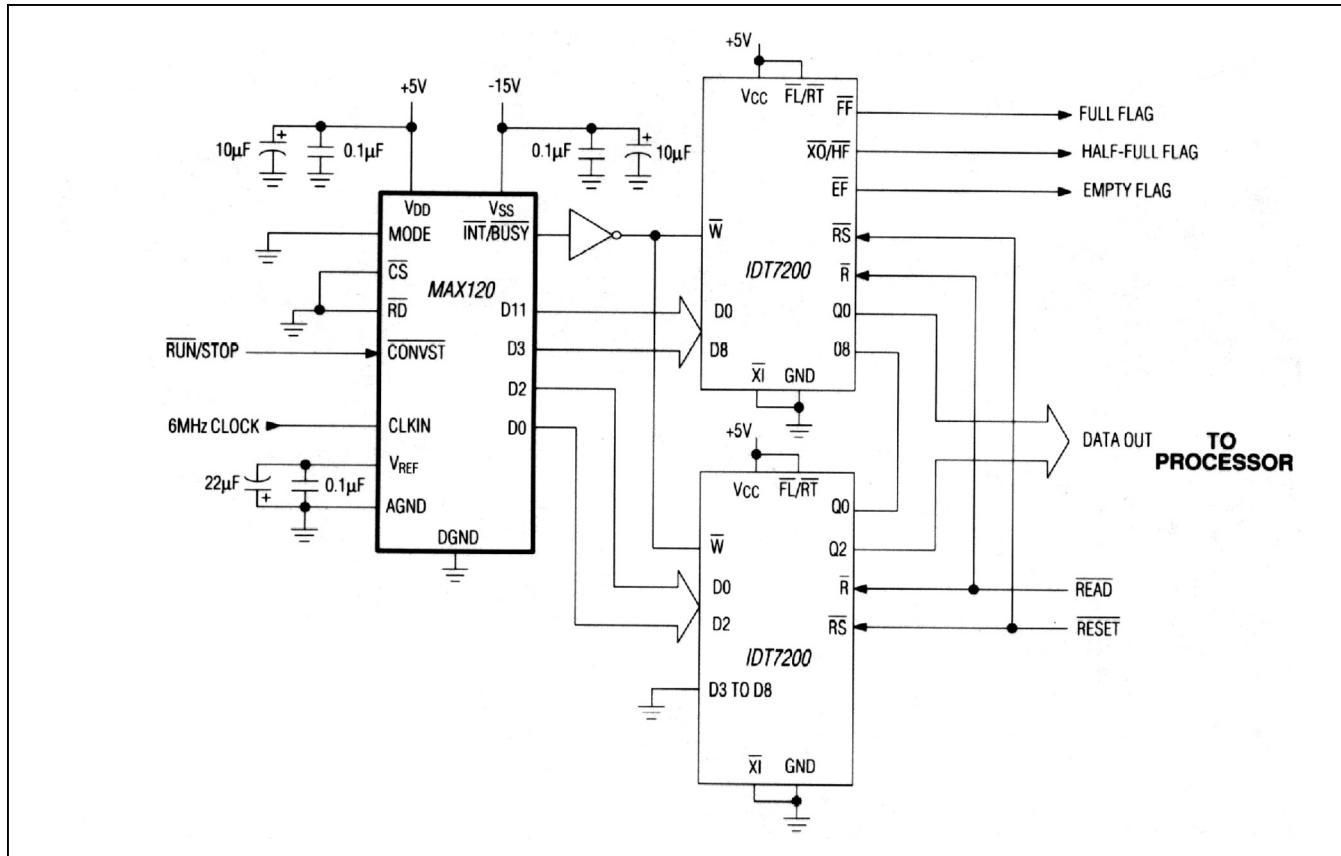

Figure 13. Using MAX120 with FIFO Memory
Using FIFO memory to buffer blocks of data from the MAX120 reduces μ P interrupt overhead time by enabling the μ P to process data while the MAX120, unassisted, writes conversion results to the FIFO. To retrieve a block of data, the μ P reads from the FIFO via a read-interrupt cycle. Read and write operations for the FIFO are completely asynchronous. Figure 13 shows the MAX120 operating in continuous-conversion mode (mode 5), writing data directly into the two IDT7200 256 x 9 FIFO buffers at the rate of 428ksps. The μ P is interrupted to read the accumulated data by the FIFO's half-full (HF) flag approximately three times per millisecond. For operation at 500ksps, use an 8MHz clock, and pulse **CONVST** at 500kHz. The full flag (FF) indicates that the FIFO is full. If this flag is ignored, data may be lost. If necessary, conversions can be inhibited by pulling **CS**, **RD**, or **CONVST** high. The FIFO's read cycle times are as fast as 15ns, satisfying most system speed requirements. The **RESET** input resets all data in the FIFO to zero.